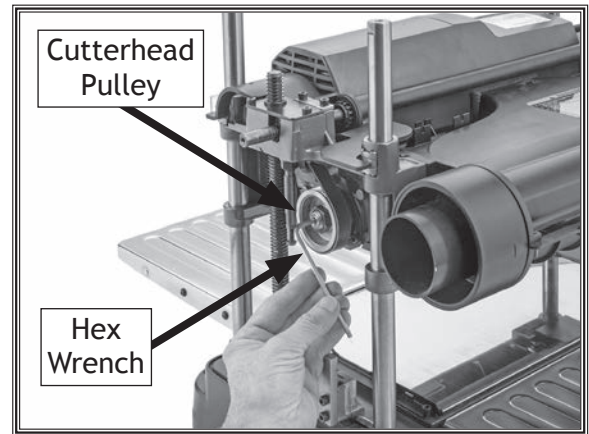

Figure 22. Inserting hex wrench in cutterhead. (Top cover and sides removed for clarity.)
6. Slide 4mm hex wrench through righthand side panel and insert in cutterhead shaft (see **Figure 22**). Use wrench to rotate cutterhead as necessary during remaining steps.